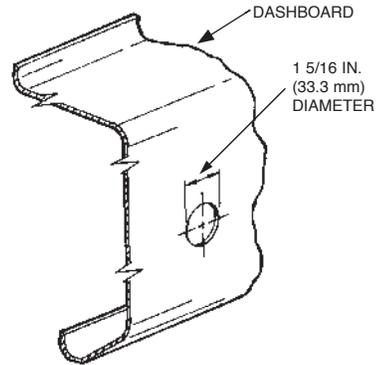

FIGURE 5-11
- Punch or drill a 1 5/16 in. (33 mm) diameter hole for mounting actuator body. See Figure 5-11. Make certain there is enough room under dash for actuator body, cartridge, and 1/4 in. actuation hose connection.